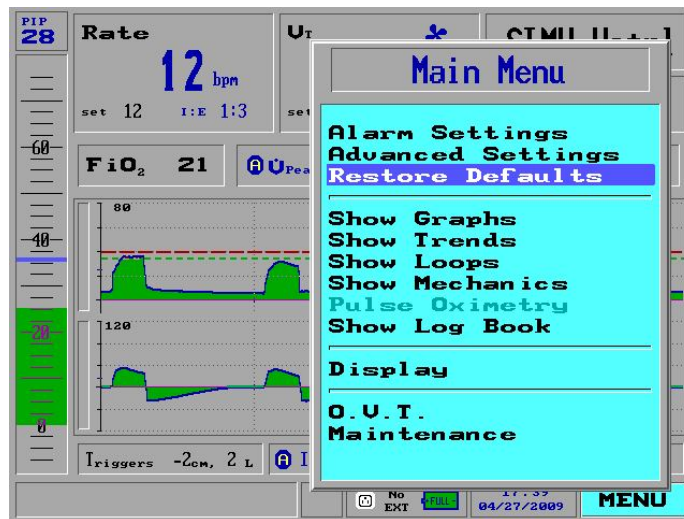

Figure 95: Restore Defaults Selected
- In the Main Menu, select Restore Defaults (Figure 95).